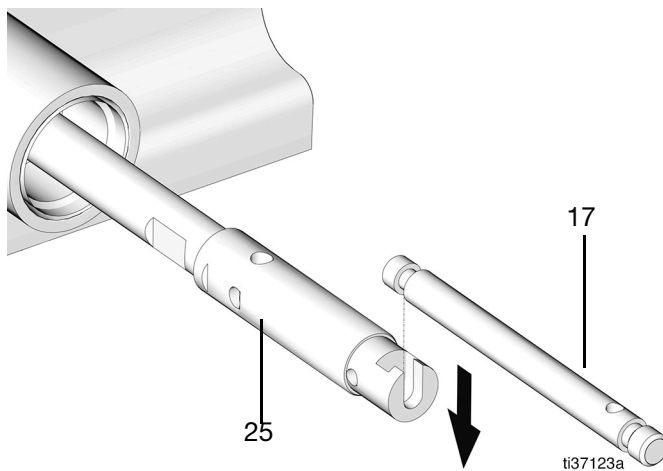

FIG. 60
15. Place the shovel rod (17) into the pump piston (25) groove (FIG. 60).